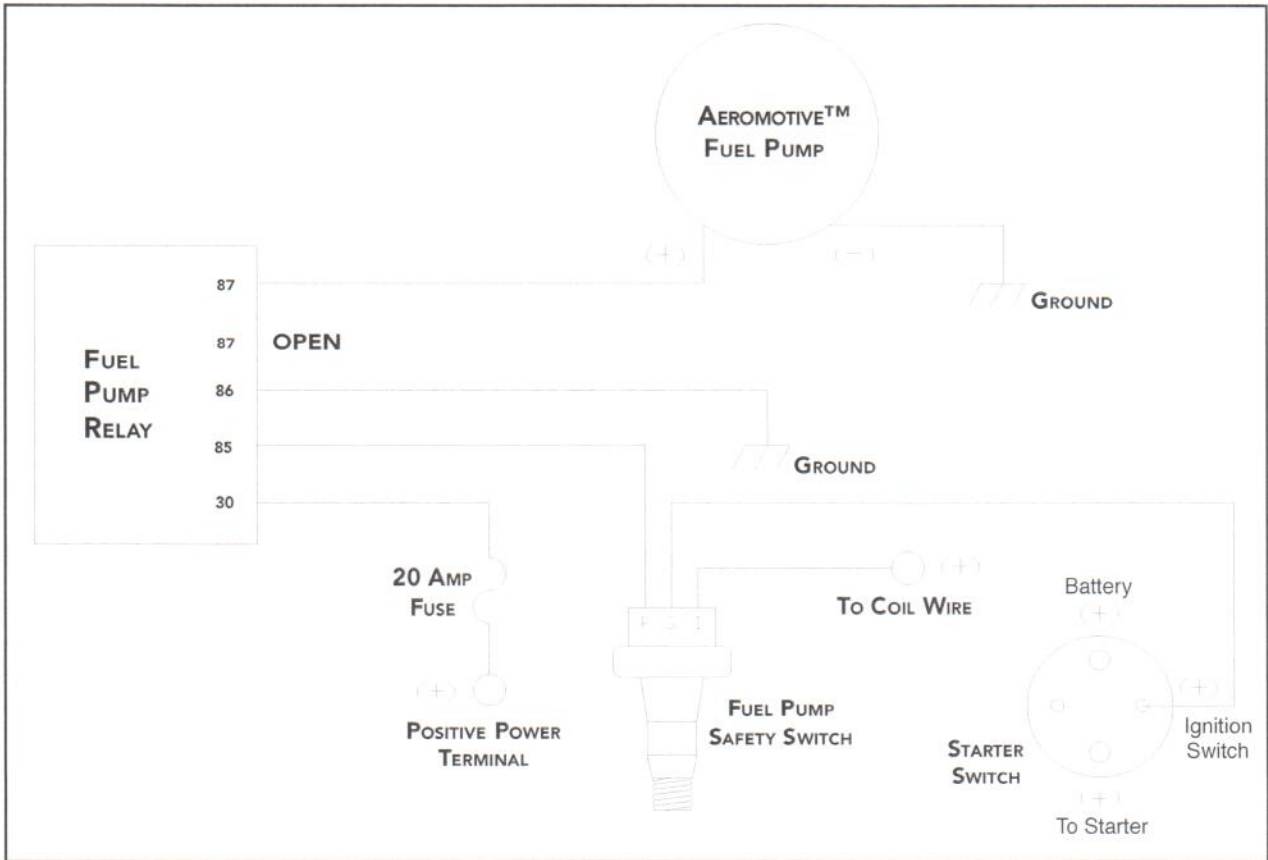

FIGURE F5
- *(Refer to Figure F5 for the following instructions)
12. Attach the green wire from the relay (#85) to the (P) terminal of the fuel pump safety switch.
13. Connect a wire running from the (I) terminal of the fuel pump safety switch to a switched power source (one that is only powered with the key in the "on" position such as the coil).
14. Connect a wire running from the (S) terminal of the fuel pump safety switch to the (+) ignition terminal on the starter switch (located on the starter).